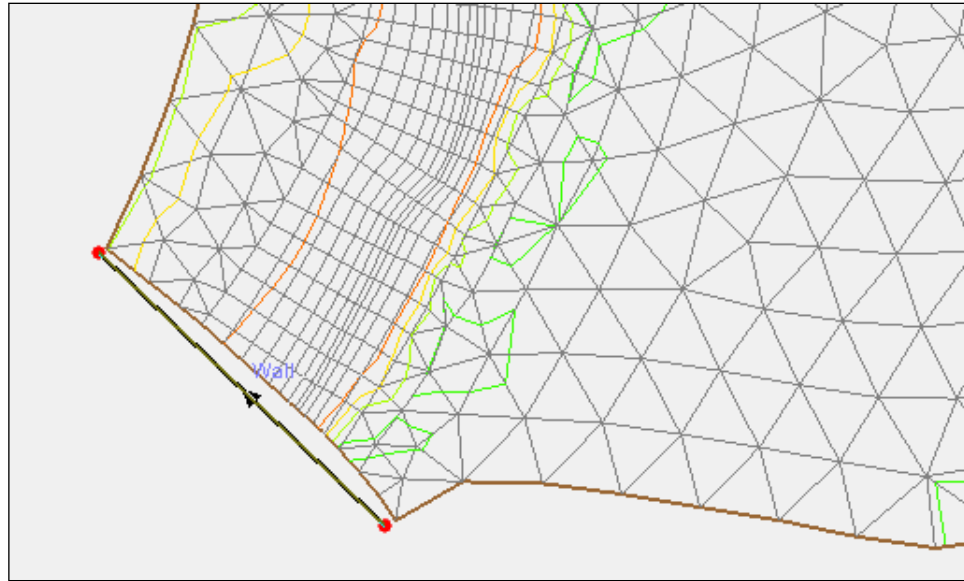

Figure 2 New inflow arc
7. Using the **Create Feature Arc** tool, create an arc near the inflow boundary as shown in Figure 2.